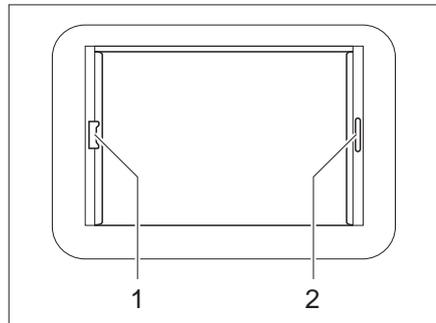

Fig. 51 Heki skylight, blind lock
- Pull out Roman shade at the handle (Fig. 51,2) and release in the required position. The Roman shade will stay in that position.
- Pull the roller insect screen at the handle (Fig. 51,1) to the opposite handle of the Roman shade (Fig. 51,2) and allow to engage.
- At the back, press the roller insect screen handle upward and unhook the roller insect screen at the Roman shade (Fig. 51,2).